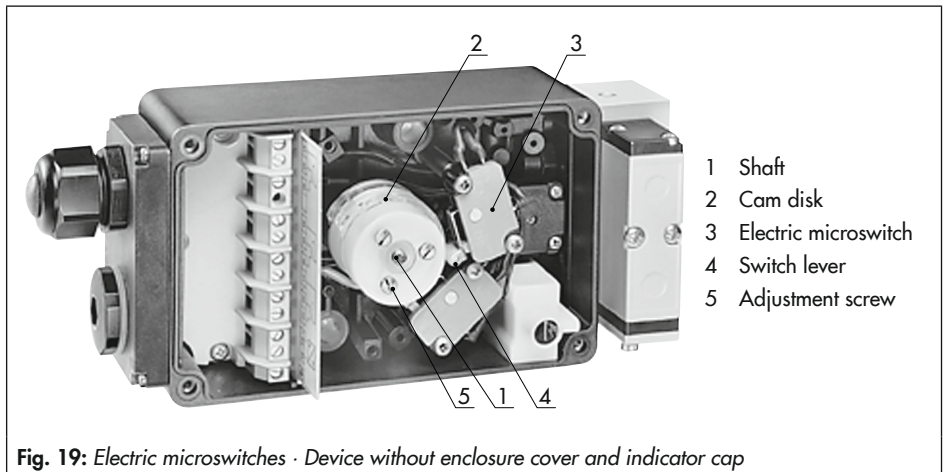

Fig. 19: *Electric microswitches · Device without enclosure cover and indicator cap*
The shaft (1) of devices with electric microswitches has a maximum of three adjustable cam disks (2). Each cam disk activates an electric microswitch (3) over the roller on the switch lever (4) (see Fig. 19).